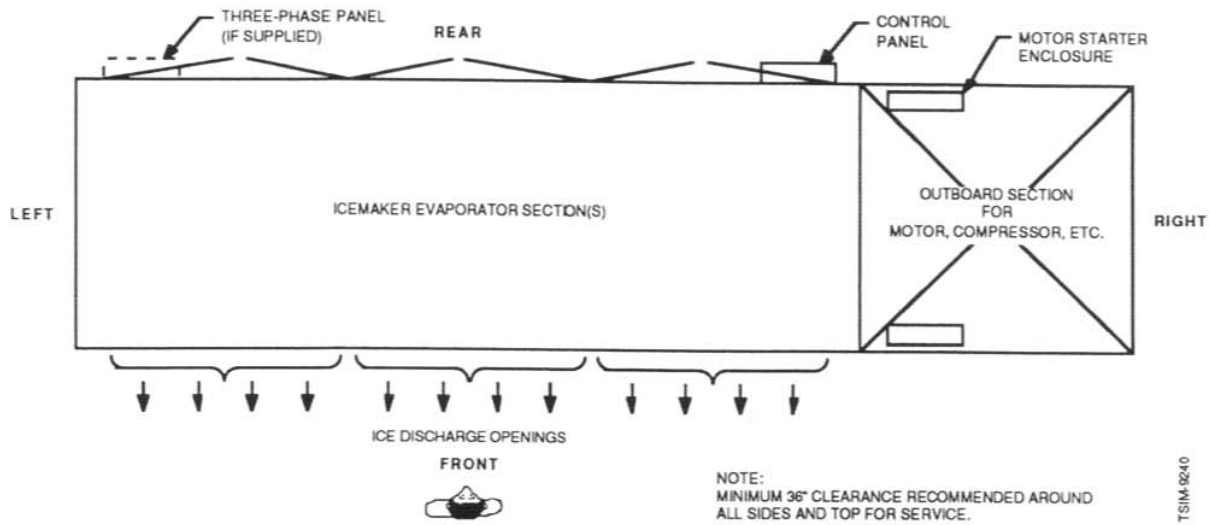

Figure 3-3 Typical Icemaker Layout (C-Series – 60 Ton Model)
- Establish the front and rear, and the left and right of the icemaker by facing the ice discharge opening (see Figure 3-1, Figure 3-2, and Figure 3-3).
On the 60 ton model, the motor/compressor sets and condensers on the SC model are located outboard as shown in Figure 3-3.
On 30 and 40 ton models with reduced voltage starters, a separate three-phase enclosure is located on the rear (left corner). This enclosure is for all motor starters (compressors, breaker bars, water pumps). Refer to Figure 3-2 and Figure 3-3.